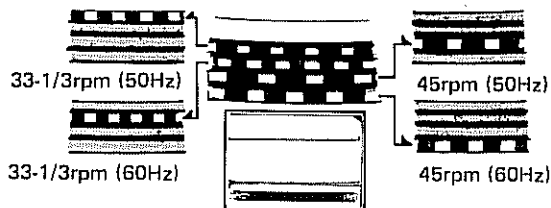

Fig. 12
3. Push the START button and observe the appropriate strip of strobe calibration dots on the platter edge (Fig. 12).
5. Set the speed selector switch to 45, and proceed to adjust in exactly the same way with the 45rpm fine adjustment knob, while observing the appropriate strip of strobe calibration dots on the platter edge (Fig. 12).